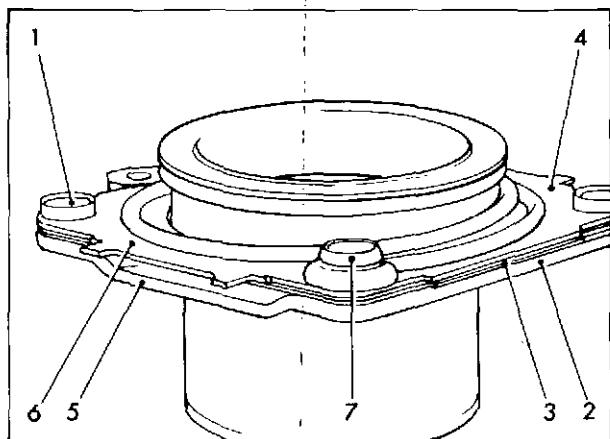

Fig. 14 Renewing switch moving contact
8. Remove the four rivets (1) fig. 14 holding the moving contact assembly together and this allows the contact (2) and insulator (3) to be removed from the latch plate (4).
9. When fitting the new moving contact, first assemble the insulator and moving contact to the latch plate, ensuring that the second stage contact (5) is adjacent to one of the two lips (6) on the latch plate as shown.
10. Reassemble with new rivets as illustrated in fig. 14, ensuring that the long insulating bush (7) is passed through the spring eye and is in the position shown.